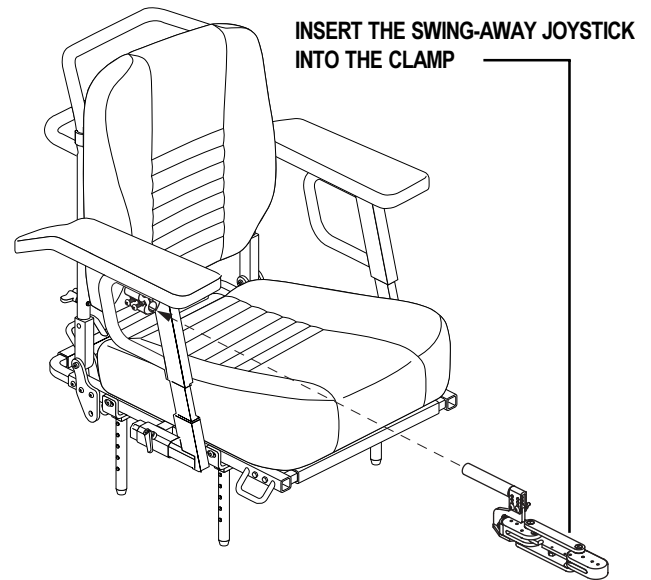

Figure 11a. Swing-away Joystick Installation
3. Slide the swing-away joystick mount into the clamp assembly. See figure 11a.